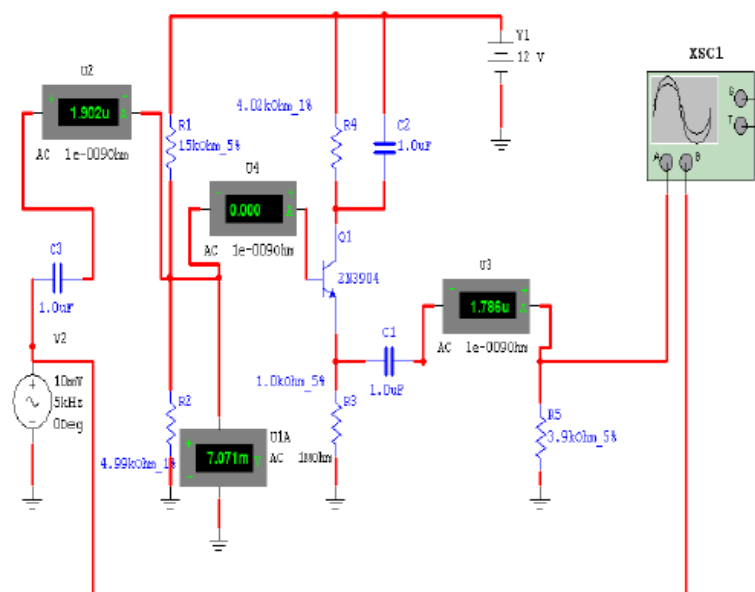

Fig.18 A CC amplifier connected to determine Z_{in} and A_v
- Connect an AC ammeter to measure I_{in} ; Fig.18.
- Connect an AC ammeter to measure I_{out} ; Fig.18.
- Connect an AC voltmeter to measure V_{in} ; Fig.18.